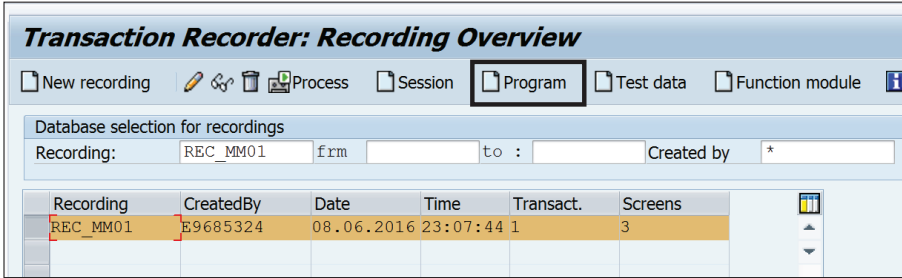

Figure 19.10 Create Program from Recording
5. On the initial screen of Transaction Recorder, select the recording and click the PROGRAM button, as shown in Figure 19.10.